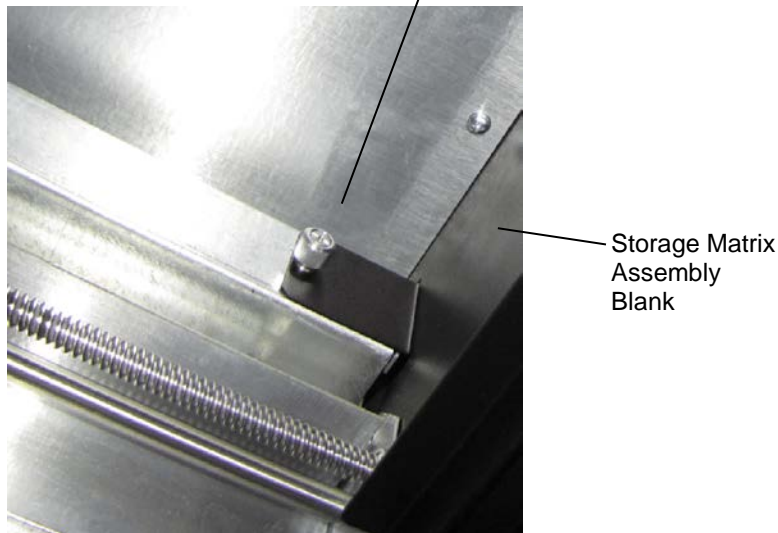

Figure 7-4 Captive screw shown securing the bottom tab of the Storage Matrix Assembly Blank
- Two large tabs at the top and bottom of the Storage Matrix Assembly Blank have a single captive screw in each of them that secures it to the RLS. Figure 7-4 shows a view of the tab at the bottom of the RLS. A flashlight and/or a small mirror may be helpful to see the exact location of the two screws.